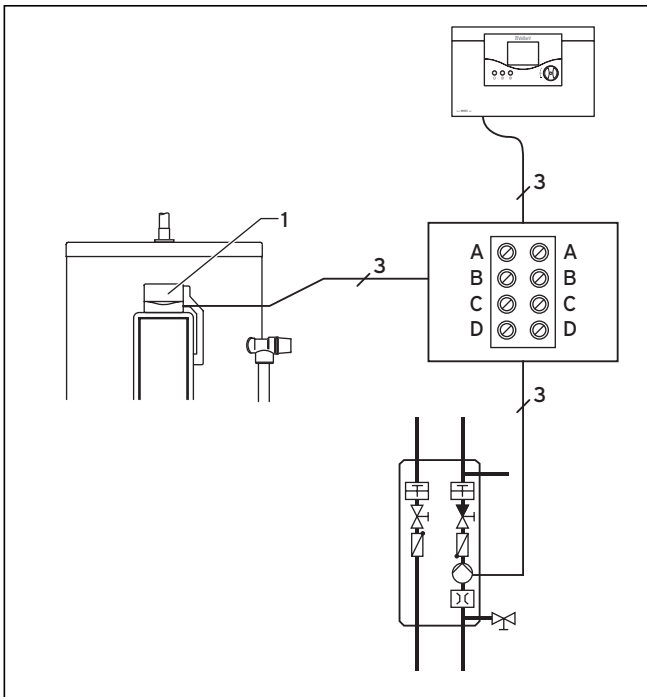

Fig. 5.24 Connection diagram of the solar pump TCO
- Connection of the solar pump to the solar control via its own thermal cut out (see Fig. 5.24)